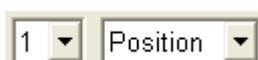

Figure 13-4 Setting a channel, and selecting **Position** or **Speed**
- ❶ The users can select the channel or the station address corresponding to an axis in the left drop-down list box of the axis, and select **Position** or **Speed** in a right drop-down list box, as shown in figure 13-4.